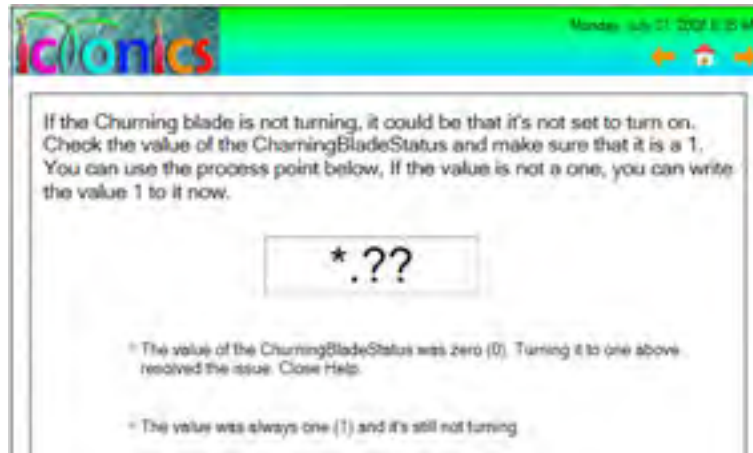

Figure L1.4 - Screen3
15. Repeat step 11, and name the group Screen3. Make Screen3 look similar to Figure L1.4.